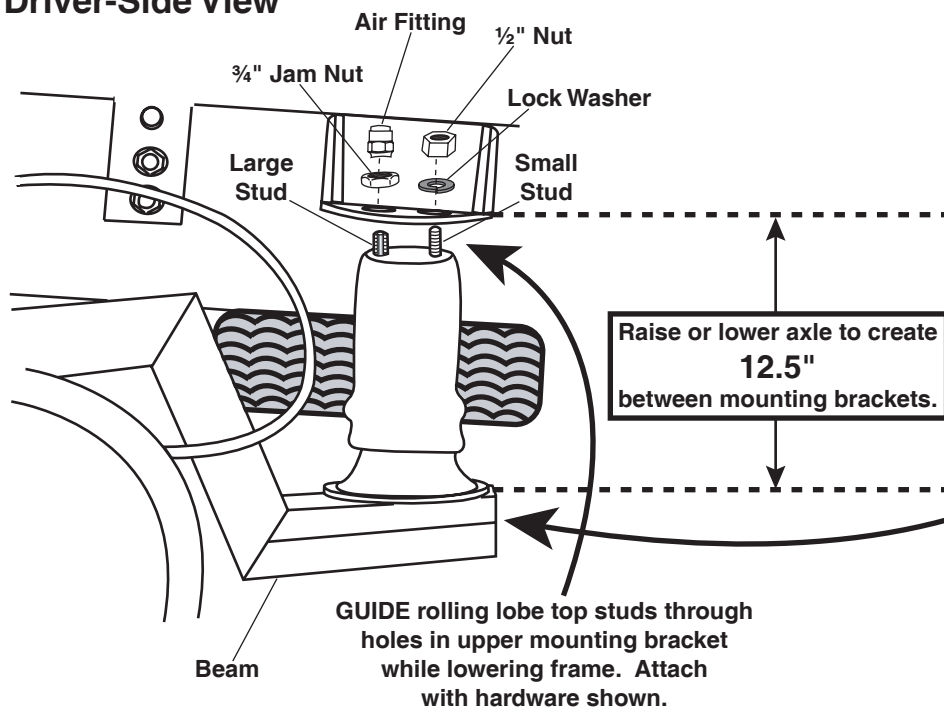

Figure 14
4. Raise or lower the axle to create a space of 12.5 inches between the rolling lobe upper and lower mounting brackets (Figure 14). Adjust the heim, using a pry bar if necessary, so both passenger-side and driver-side beam-to-frame distances are equal.
Refer to Figure 14 for the following instructions.